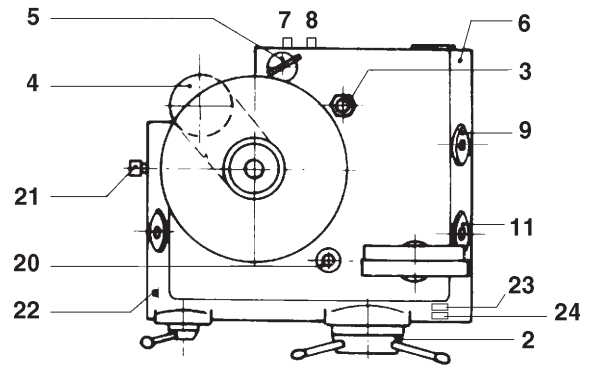
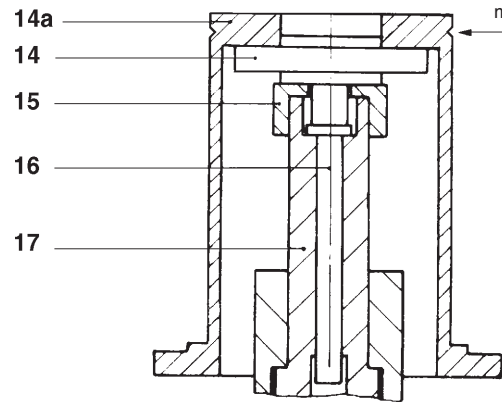

Fig. 3a
Fig. 3b
Adjust the pressure by turning the star handle until the upper edge of the base plate (14) is exactly covering the lower marking line on the mirror (Fig. 3b) respectively until the marking on the ring weight base plate (14a) is on the same level like the upper marking line of the mirror (Fig. 3a).